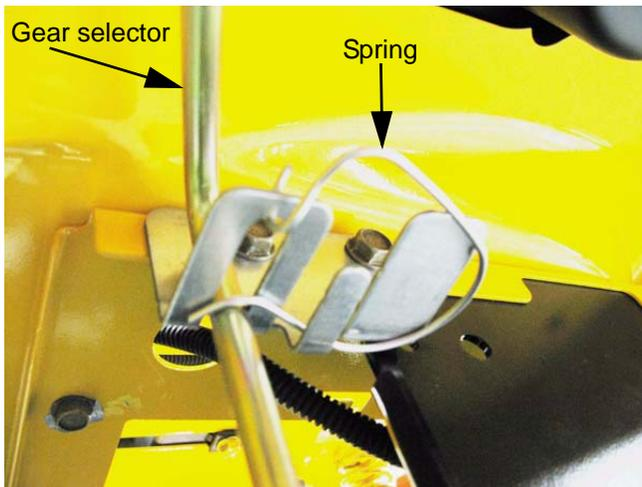

Figure 6.12
- A bracket and spring under the fender keep inward pressure on the selector to give it positive feel. See Figure 6.12.